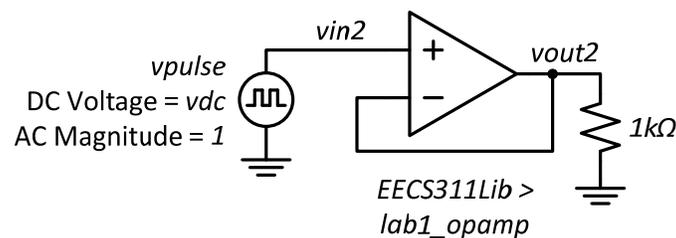

Figure 2. Circuit for exercises P1.4 and P1.5.
- P1.4 On the same schematic, without altering the circuit used for P1.2 and P1.3, add a second opamp configured for unity-gain as shown in Figure 2. Use different net names to label the wires – Cadence treats separate wires with the same net name as shorted together. Using Analog Environment, perform an AC analysis from $1Hz$ to $1GHz$ with an AC magnitude of $v_{in} = 1V$. Plot the transfer function $H(s) = 20\log(v_{out}/v_{in})$ and find the DC gain and 3dB bandwidth of the amplifier. Append a plot of the open-loop transfer function to the unity-gain response. At approximately what frequency and gain to the asymptotes of the plots join?